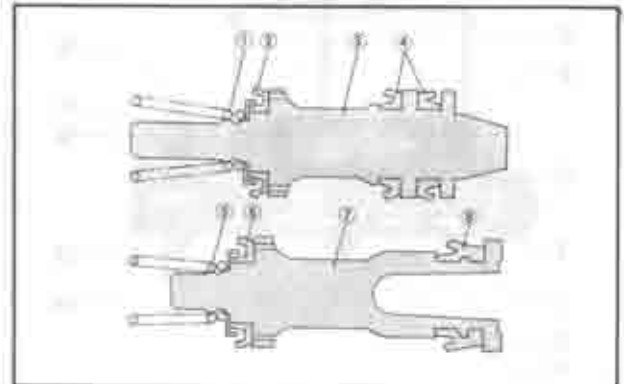

Fig. 11-13 Pistons and cups
3. Fit the secondary cup and primary cup onto the piston, as shown in Fig. 11-13.
5. Fit the primary cup and secondary cup onto the primary piston, as shown in Fig. 11-13.